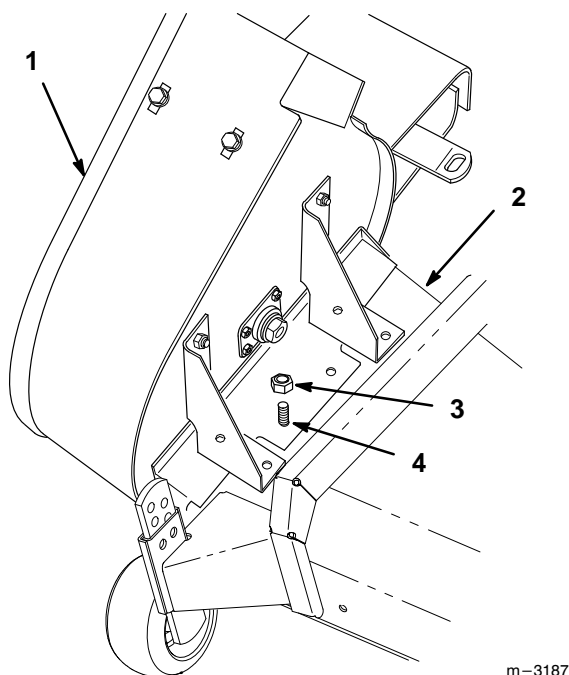

Figure 10
3. Install the blower assembly onto the mower deck using six (6) 5/16"-18 x 3/4" (19 mm) bolts and locknuts. Insert the hex bolts from the bottom of the deck (Fig. 10).